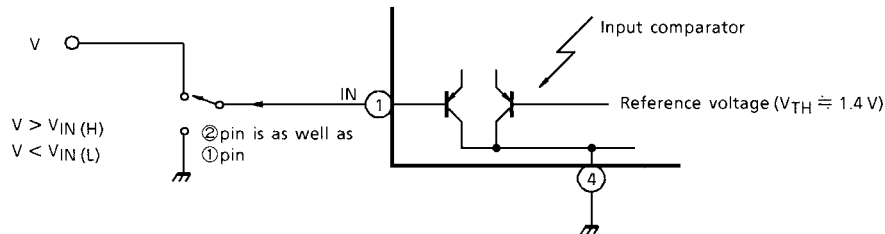

Fig. 1
(1) Input circuit
Input circuit is shown in Fig.1. It's a "Low active" type voltage comparator that's one input connect to Input terminal (pin (1), or (2)) and the other to built-in temperature compensated voltage reference ($V_{TH} = 1.4 V$ Typ.)